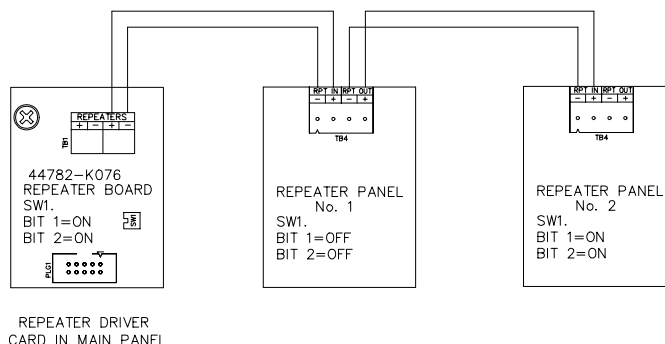

Figure 36: Repeater Panel External Wiring - option 1
5. Connect the external transmission cables to the terminals located on the repeater card as shown in Figure 36 and 37.